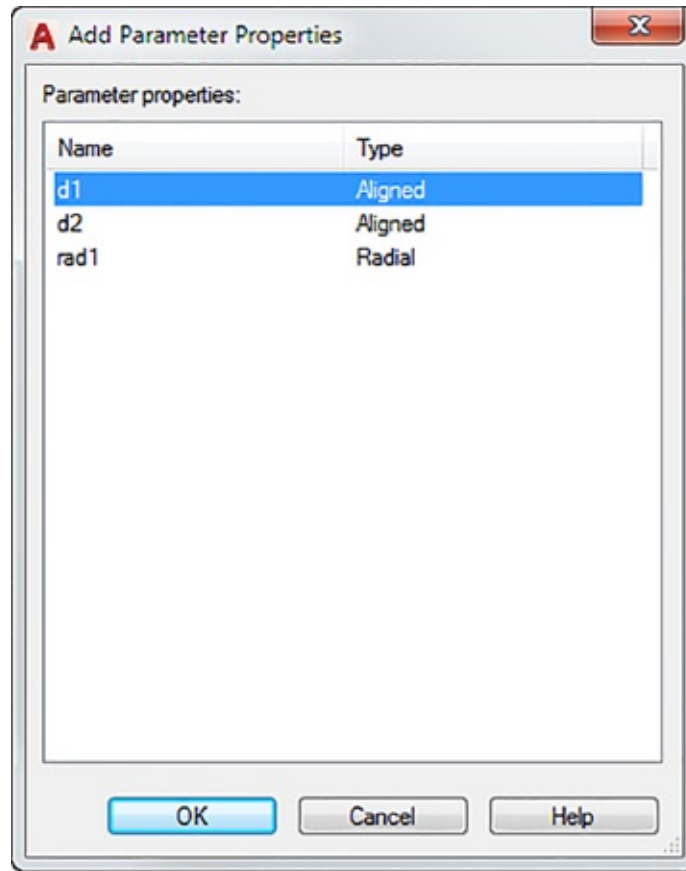

FIGURE 17.18 The Add Parameter Properties dialog box
5. Click the Add Properties tool in the upper-left corner of the Block Properties Table dialog box. The Add Parameter Properties dialog box appears (see Figure 17.18).